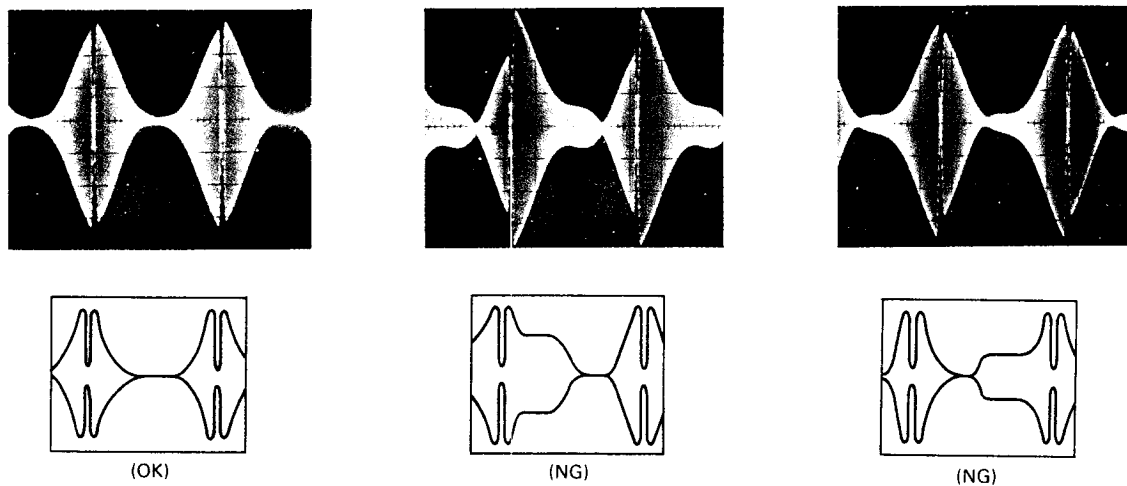

Fig. 12. Waveform of NS-SYMN
- (7) Connect an oscilloscope to TP89.
- (8) Adjust VR4004 so that the waveform balance as shown in Fig. 12.